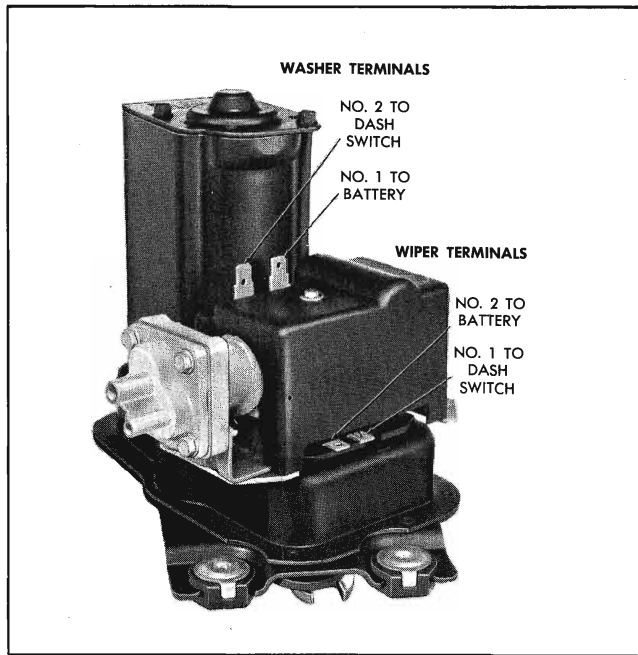

Fig. 11-95 Wiper and Washer Terminals
2. With ignition on, check for 12 volts at feed wire terminal that connects to the No. 2 wiper terminal (Fig. 11-95). If no voltage reading was obtained, check car wiring.
3. If correct voltage is obtained in step 2, connect a jumper wire from the No. 1 terminal (Fig. 11-95) to ground. If wiper operates, an inoperative dash switch or broken wire to dash switch is indicated.
- a. Check to see that wiper motor lead that connects to the No. 1 terminal (Fig. 11-95) is not grounded.